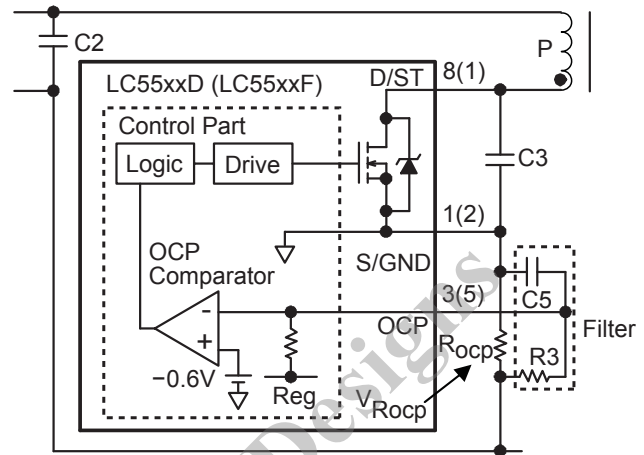

Figure 44. OCP circuit for negative side detect
In order to minimize effects of variation in the internal resistor, R_3 (figure 44) is recommended to have a value from 100 to 330 Ω . and C_5 is recommended to have a value from 100 to 470 pF, with good temperature characteristics. Selecting larger capacitances slows OCP response, and results in an increase in the drain current peak at transient conditions, such as start-up.
- reduce the voltage resonant capacitor C_V (C_3 in figure 44) capacitance